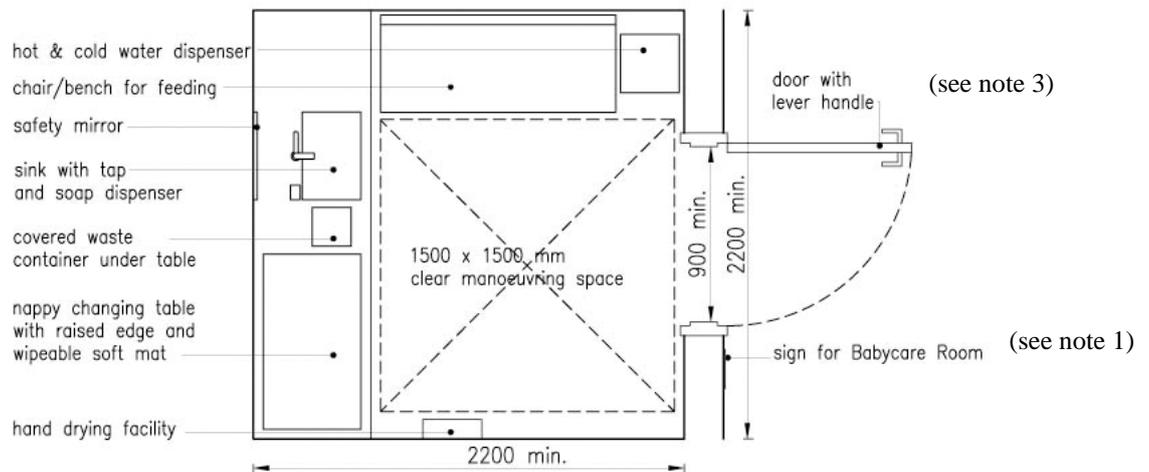
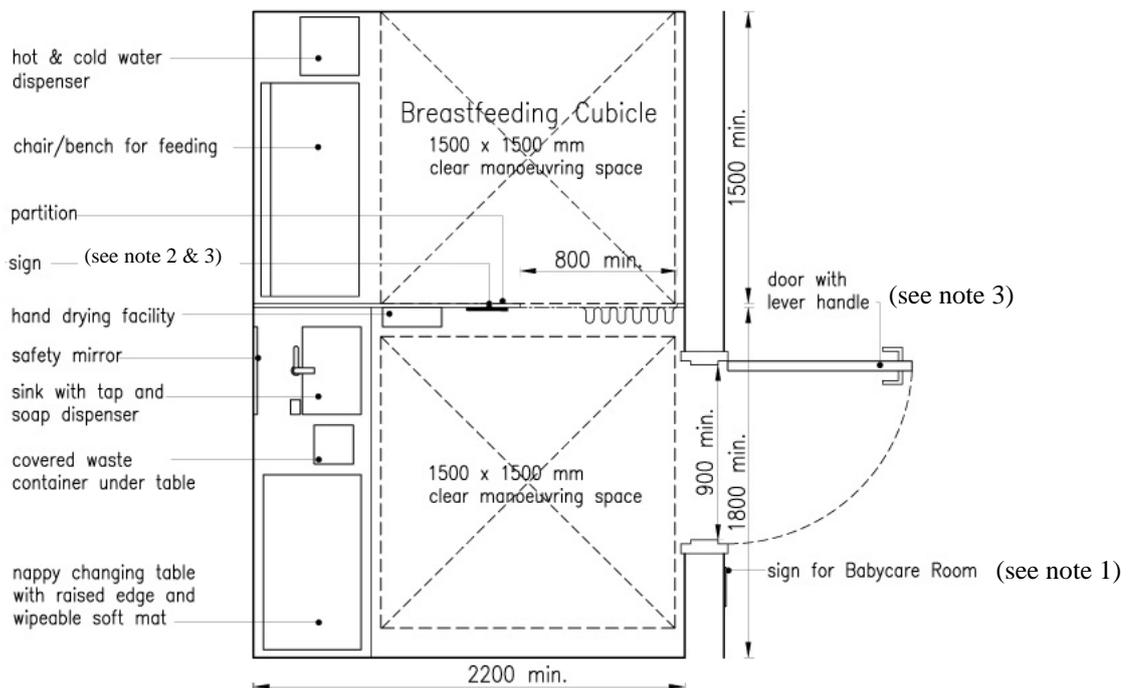

Figure 1: Room for single breastfeeding mother
Figure 2: Room for single breastfeeding mother with breastfeeding cubicle
5. In designing a BB room, special attention should be paid to the ergonomics of the layout, positioning of furniture and fittings and provision of manoeuvring space for persons with a disability. The minimum size of a BB room should be about 5 m² (2.2m x 2.2m) for a single breastfeeding mother and about 7.5 m² (3.4m x 2.2m) for a room with breastfeeding cubicle. Typical layouts of a BB room for a single breastfeeding mother and that with breastfeeding cubicle are shown in Figures 1 and 2 at Appendix B for reference.
2. Proper signage e.g. “Breastfeeding Area for Women only” “餵哺範圍，女士專用” should be displayed outside the door in Figure 1 and outside the breastfeeding cubicle in Figure 2.